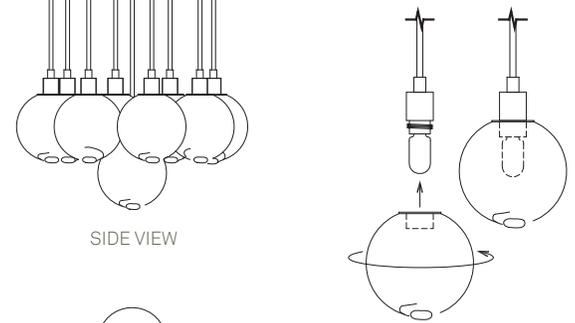

Figure 3. Install glass spheres by threading onto brass sockets
- 7 Carefully thread a glass sphere onto each socket (Figure 3). Do not overtighten.